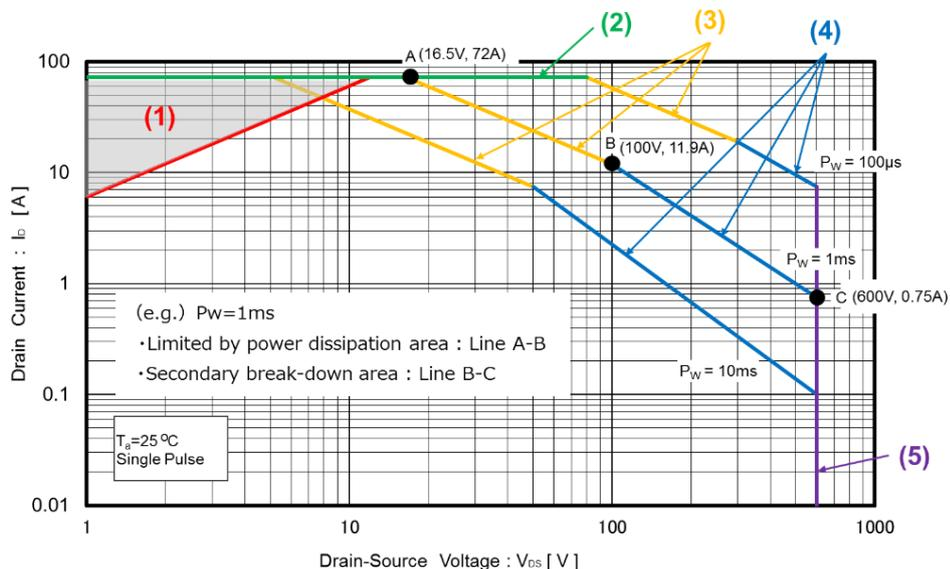

Figure 1. SOA of Super Junction MOSFET "R6024KNX"
The SOA of ROHM Super Junction MOSFET (SJ MOS) "R6024KNX" is shown in Figure 1. As shown in (1) to (5) of Figure 1, SOA can be classified into the following five areas.
(1) Limited by on-resistance area
Specifically, temperature derating is applied for the (3) thermal limiting area and (4) secondary breakdown area of Figure 1.
The thermal limited area before derating ( $T_a=25^\circ\text{C}$ ) is defined by point A and B in Figure 1. From the voltage and current value at point B, the power dissipation at  $T_a=25^\circ\text{C}$  is shown as: